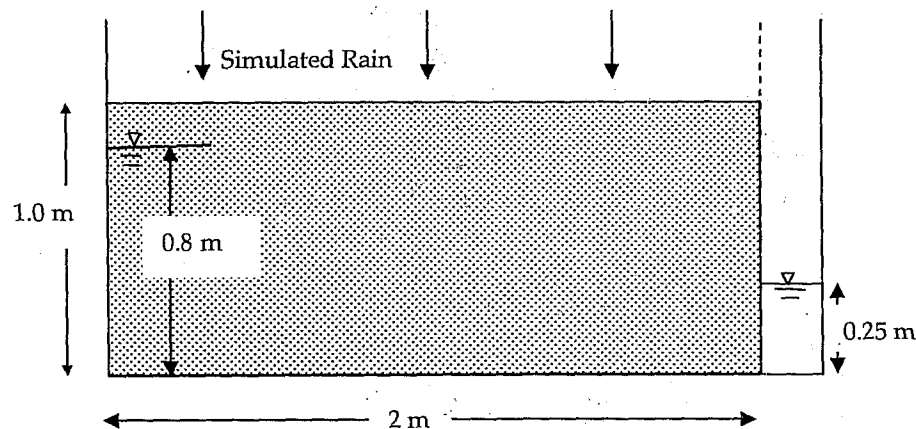

Figure 2
2) A tank has a rectangular cross-section and is 2 m long and 0.5 m wide. The tank is filled with uniform fine sand of permeability of 2 m/day up to a depth of 1 m as shown in Figure 2. Steady uniform rainfall is simulated by allowing drops of water to fall on the top of the sand. The water soaks into the sand and forms a free surface within the sand layer, as shown in the Figure. For the first case the water level on the right hand side is maintained at a level 0.25 m above the bottom of the sand layer by allowing the water to flow out. Water is not allowed to flow out of the left hand side and it is observed that the height of the free surface at that end is 0.8 m above the bottom of the sand layer.